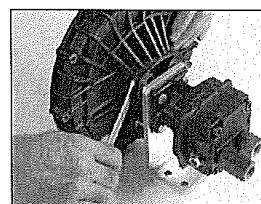

Fig. 4
4. To remove mechanical seal from casing cover (Ref. 16), first remove the casing cover from the hydraulic motor bracket (Ref. 20) by loosening the four bolts three turns each using a 13mm wrench; then rotate the casing cover 45° clockwise to remove. From the hydraulic motor side of the casing cover, press the mechanical seal out using a 1" diameter piece of PVC pipe 4" long. Inspect parts for wear. (See Fig. 4.)